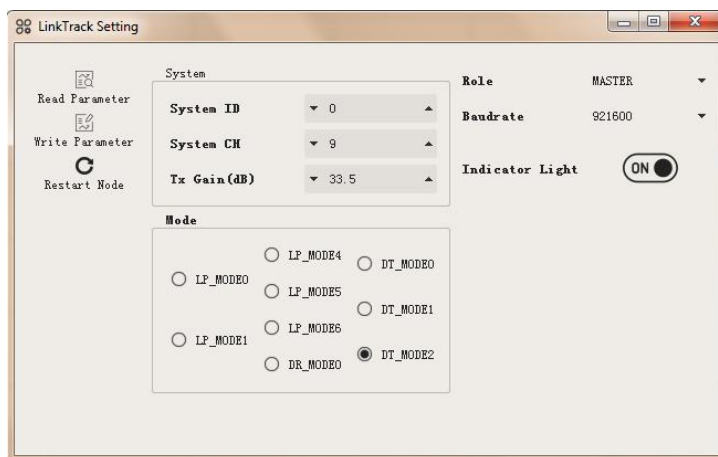
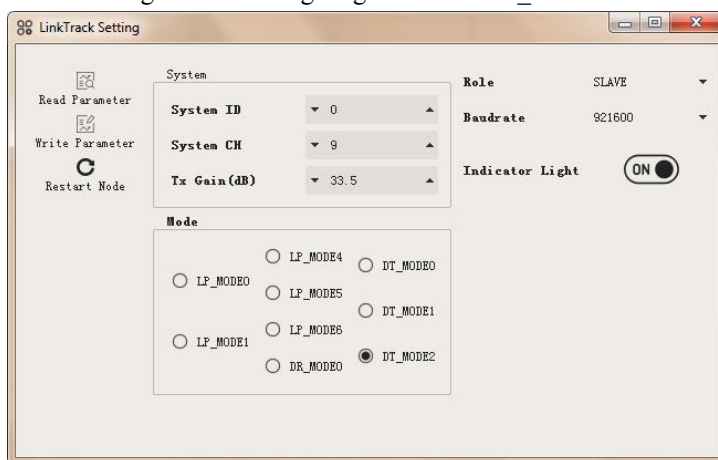

Fig. 16: M Setting diagram under DT_MODE2
Fig. 17: S Setting diagram under DT_MODE2
1. **【Configure the System】** Prepare 3 LT nodes, configure one Node as 1 MASTER through NAssistant, and abbreviate as M; configure 2 other nodes as SLAVE, and abbreviate as S. Fig. 16 shows the Setting of M, and Fig. 17 shows the Setting of S.